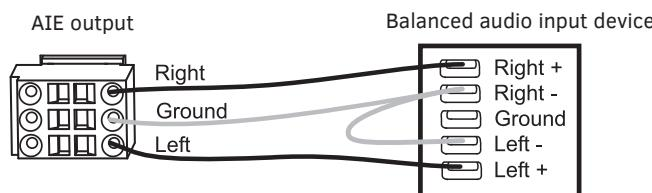

FIG. 94 Wiring from AIE to balanced audio input device if buzzing occurs
- Wire the AIE connector as follows: AIE L to device L+; AIE R to device R+; AIE ground to device R-; and a jumper from device R- to device L- (see FIG. 94 below).
The wiring in FIG. 94 can be used if the extracted audio buzzes when connected to a balanced audio input device.